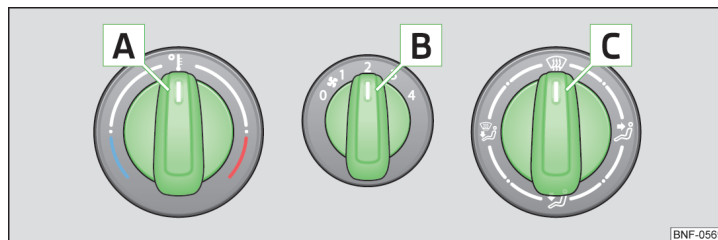
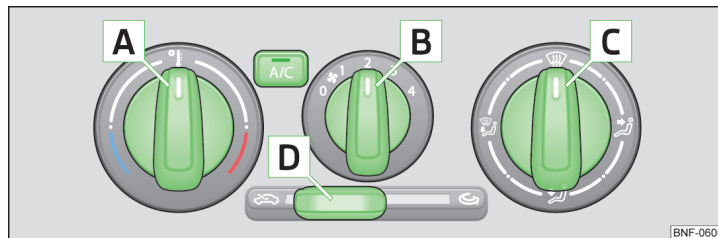

Fig. 74 Heating Controls
Fig. 75 Controls of the air conditioning
Functions of the individual controls » Fig. 74 and » Fig. 75
- > To **turn on** the air recirculation, move the slider into position **D**  » Fig. 75 on page 71.